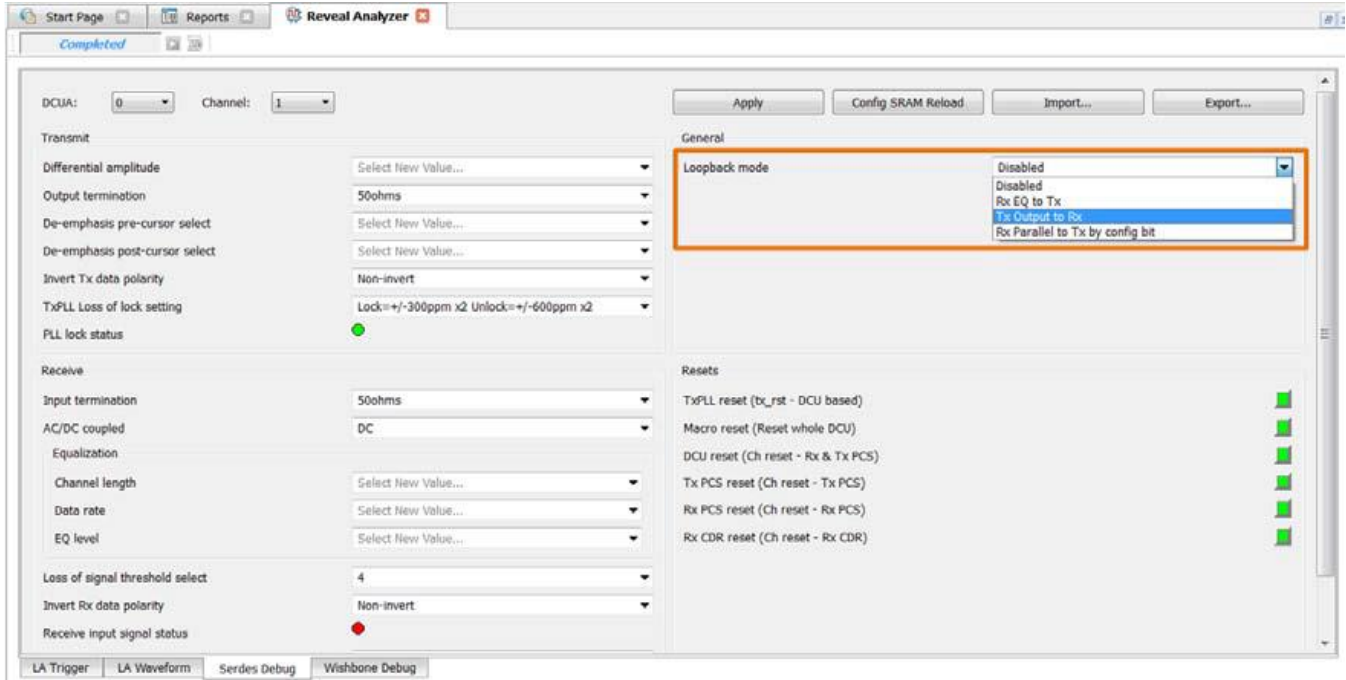

Figure 8.6. Enabling Internal Loopback
4. Figure 8.6 shows the SERDES Debug window in Reveal Analyzer. The internal loopback setting in the SERDES can be updated using the drop-down menus shown. Once the mode is enabled, click the apply button to update the active SERDES setting.